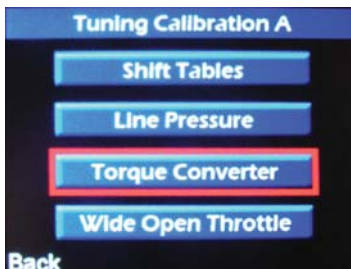

Figure 14
- To alter, select “TORQUE CONVERTER” using the “UP” and “DOWN” arrow buttons and press the “OK” button (Figure 14).